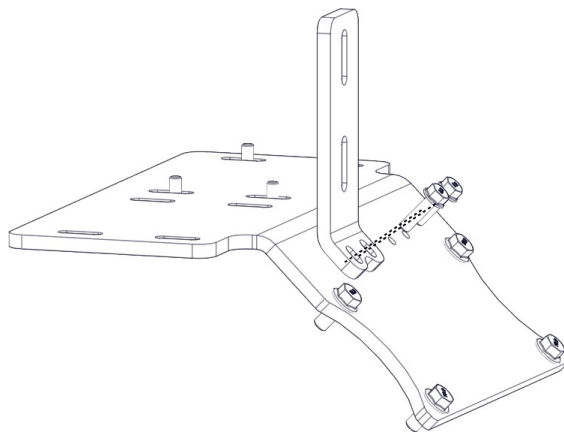

Figure 47.
8. Remove the two bolts on the MFG supporting bracket (Figure 47).